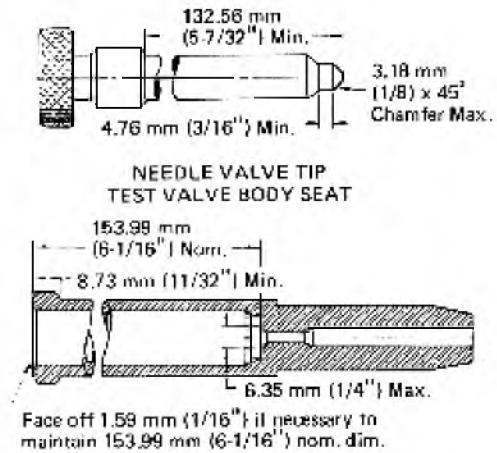

Fig. 2-35 - Test Valve Reconditioning Limits
2. If reaming will not correct the leaking due to a scored or damaged valve stem face, it should be reconditioned within the limits shown in Fig. 2-35. Reharden the tip to a depth of 0.13-0.25 mm (.005"-.010").
3. The cylinder test valve body may be reworked to the dimensions shown in Fig. 2-35. Use reamer to recondition the valve seat. If necessary to exceed the 6.35 mm (1/4") maximum diameter of valve seat, Fig. 2-35, recut bottom of 12.7 mm (1/2") diameter counterbore and reface hexagon end to hold the 153.99 mm (6-1/16") nominal dimension.